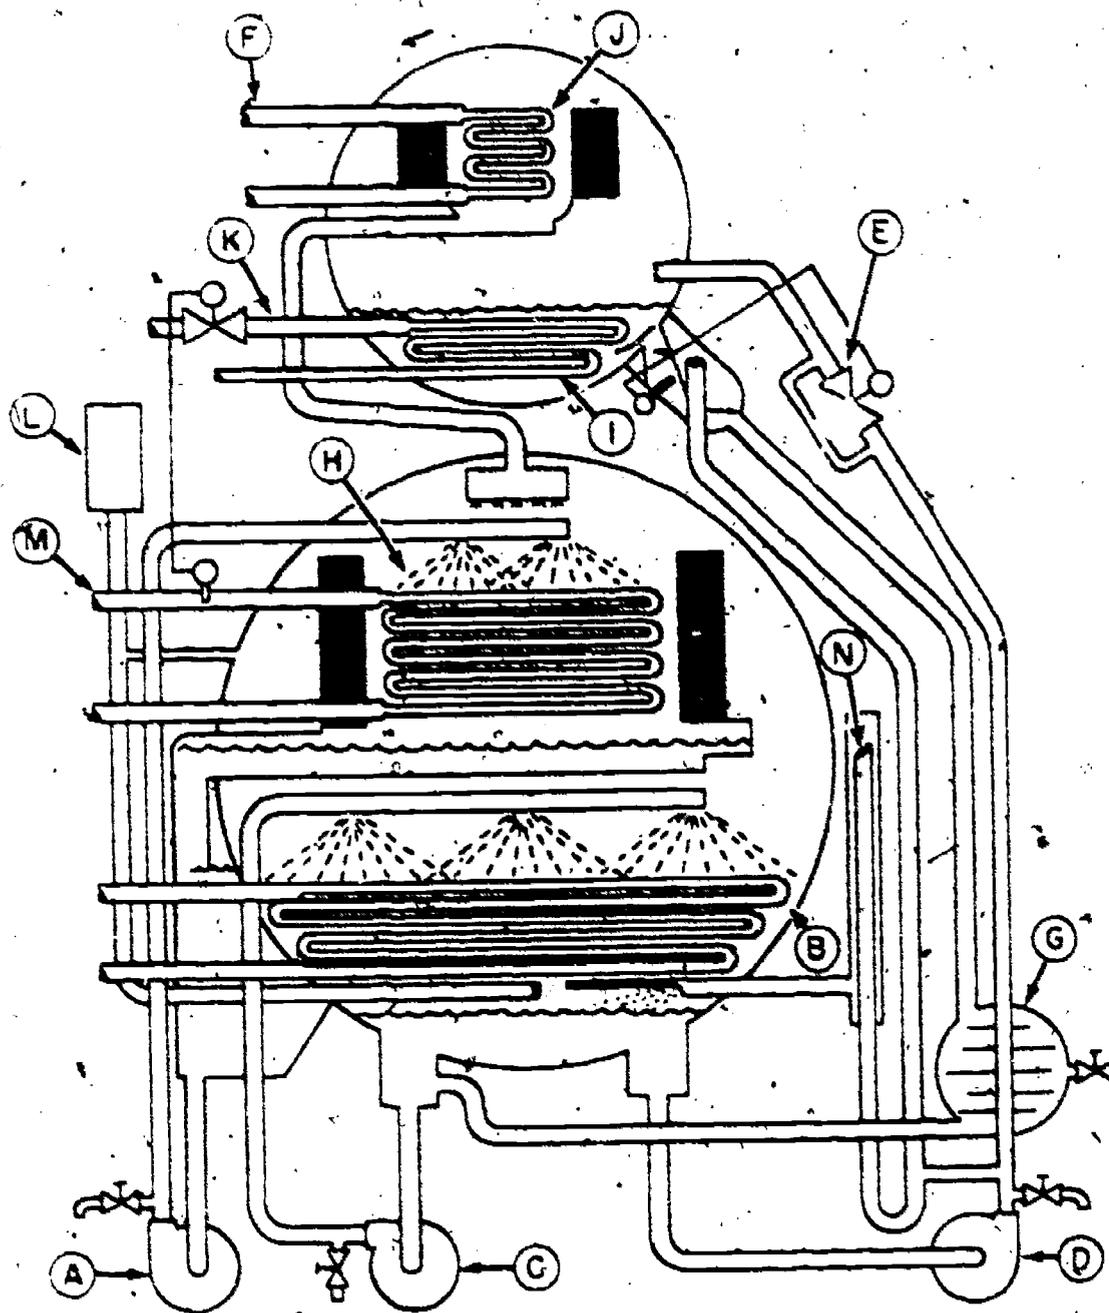

Figure 2 . Lithium Bromide Absorption System
1. Identify the lettered components in figure 2 and write their names after the corresponding letters below.